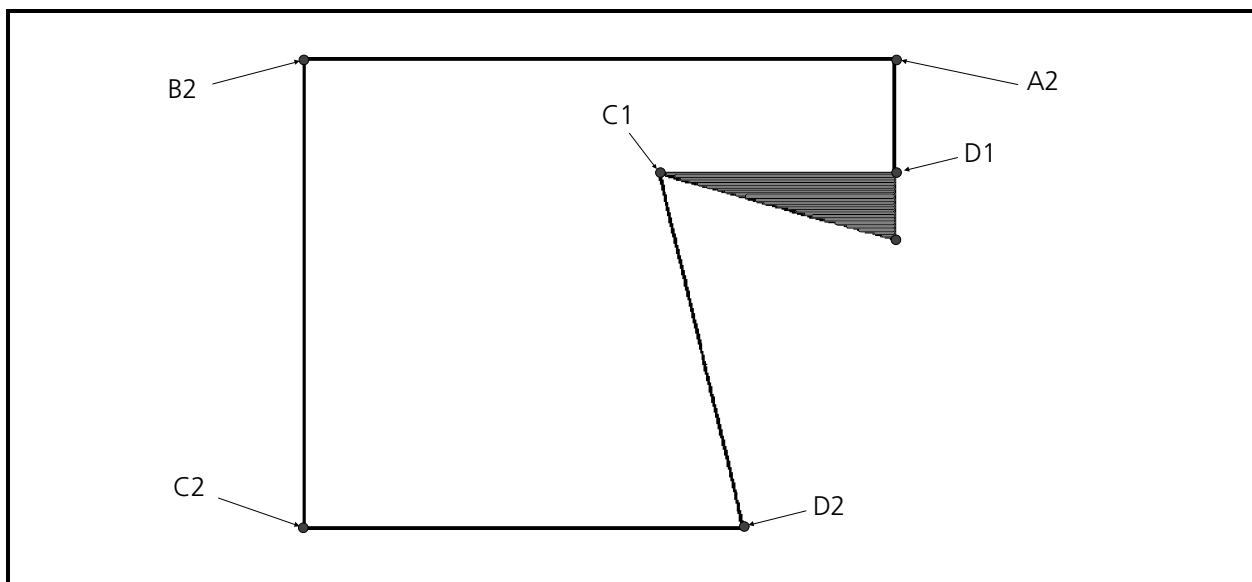

Figure 3-57
Now, as shown in Figure 3-57, the monitor should display the triangular section you just digitized in a fill pattern that enters at point A1 (see rule #1) and exits at point D1 (see rule #2). If you want the fill stitching to exit at the left of the triangle, you may interchange points C1 and D1 when you digitize (see rule #2).
2. Enter a Mk1 at A2 in the illustration in Figure 3-57 and another Mk1 at B2 to define the first line of the fill.
4. Now enter a Mk2 a point B2 in the illustration in Figure 3-57 to identify the start of the first side of the second fill. Review rule #4 if you have a question on this step.